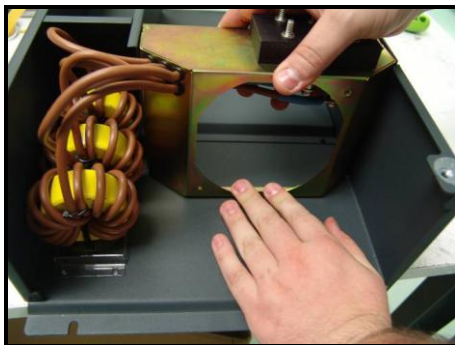

Figure 7.2.22
- 1) Remove the 4 screws (**M4x8** DIN-7895H) which fix dV/dt chokes to the chassis (see figure 7.2.22).
- 2) Remove the 4 screws (**M4x8** DIN-7895H) which join the fan structure to the chassis (see figure 7.2.22).
- 3) Fix the fan structure to the chassis by using the 4 screws (**M4x8** DIN-7895H). See figure 7.2.22.
- 4) Fix dV/dt chokes to the chassis by using the 4 screws (**M4x8** DIN-7895H). See figure 7.2.22.